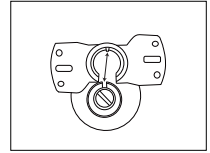

Figure 1
1. Insert the downrod ball head into the groove of the mounting bracket. (Figure 1)
Low-profile use (Figure 1)